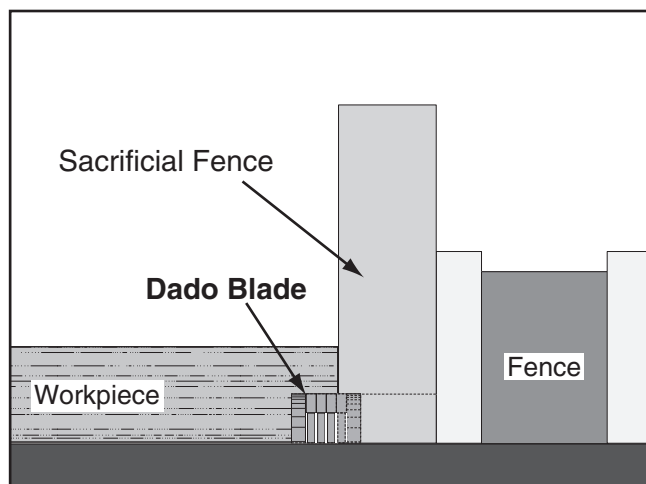

Figure 65. Rabbet cutting.
3. Adjust fence and align workpiece to perform cutting operation, as shown in **Figure 65**.